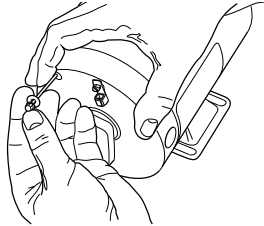
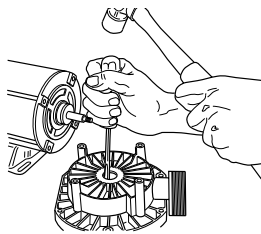

Figure 4
Figure 5
6. Carefully remove four motor throughbolts from seal plate (Figure 4); remove seal plate and use a screwdriver to tap ceramic seat out from the rear (Figure 5). Do not damage seal cavity in seal plate.